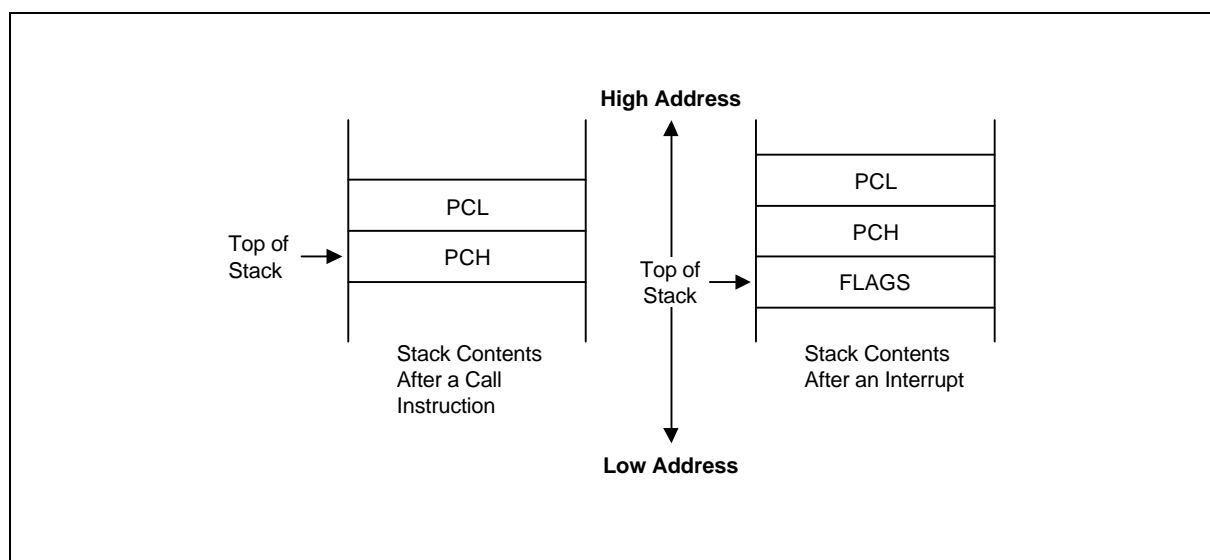

Figure 2-15. Stack Operations
Return addresses for procedure calls and interrupts and data are stored on the stack. The contents of the PC are saved to stack by a CALL instruction and restored by the RET instruction. When an interrupt occurs, the contents of the PC and the FLAGS register are pushed to the stack. The IRET instruction then pops these values back to their original locations. The stack address value is always decreased by one *before* a push operation and increased by one *after* a pop operation. The stack pointer (SP) always points to the stack frame stored on the top of the stack, as shown in Figure 2-15.